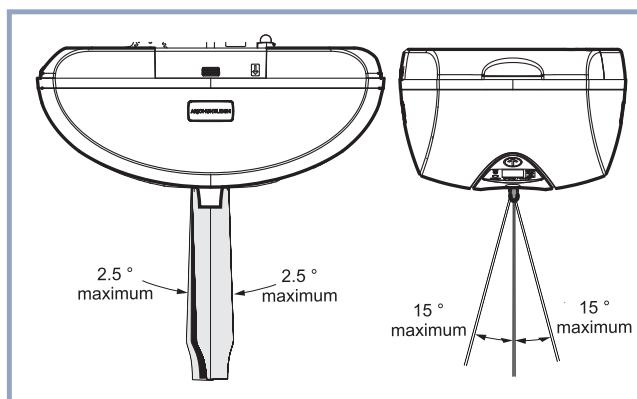

Figure 6
- When raising or lowering the patient, always remember to keep the strap as straight as possible for security purposes and to prevent premature wear of the lift's components. Never exceed maximum values as shown in Figure 6.